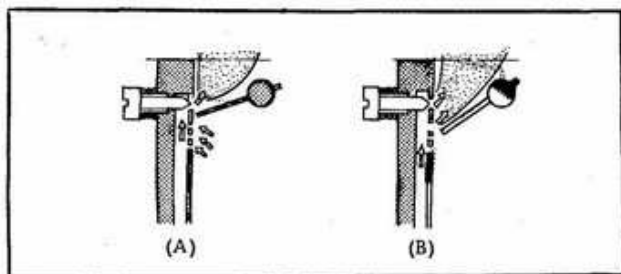

Fig. EF-23
When the opening of Throttle Valve (4) is small as shown in Fig. EF-23(A) (Idling). The air will be sucked from these holes and make thin the density of the fuel, promoting the vaporization of the fuel.
When the opening of Throttle Valve becomes bigger as shown in Fig. EF-23(B) (Slow-Middle speed running), then the mixture will jetted out from By-pass holes as well as Pilot Outlet.
That is, at first, the negative pressure operates only on Pilot Outlet (7) and after Throttle Valve opens more widely than as shown in Fig. EF-23(B), the negative pressure will operate also on the vicinity of By-pass (9) and the mixture will be jetted from By-pass holes, too.